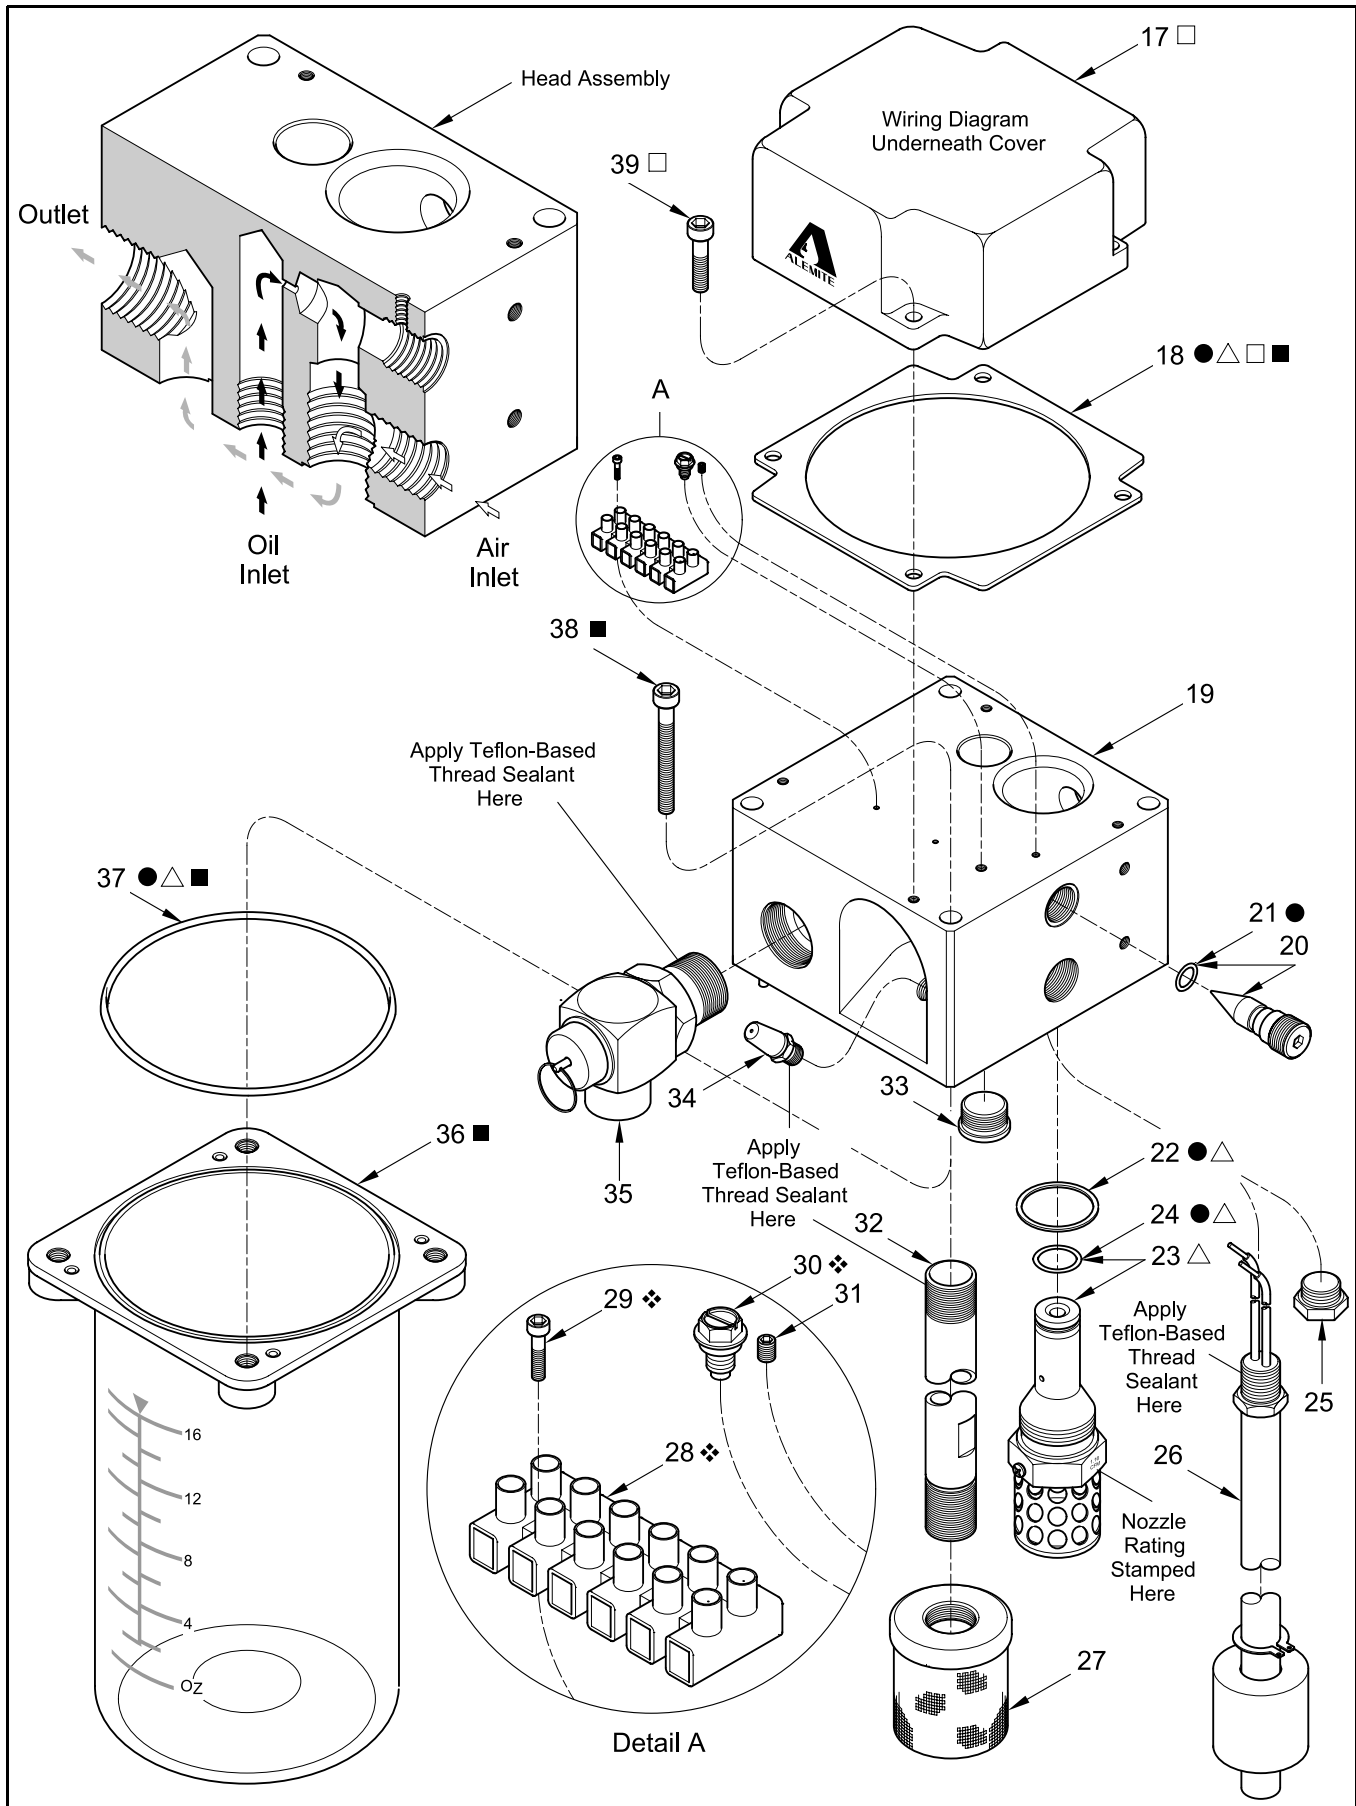

Figure 3 Lubricator Model 3922-A and 3922-B - Exploded View (w/ Section View of Head Assembly)
A wiring diagram mounts on the underneath side of Cover (17) for systems that include the low-level switch. See **Figure 3**.
NOTE: Lubricate O-Rings **21**, **24**, and **37** with clean oil prior to installation. See **Figure 3**.